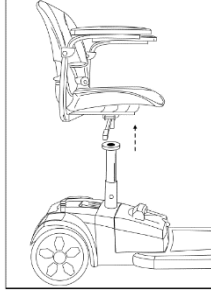

Figure 9
1. Fold the seat back down, grasp the seat on both sides and lift the seat up and off the seat pedestal. *See Figure 9. (Note: Seat arms can be removed to reduce the seat weight).*